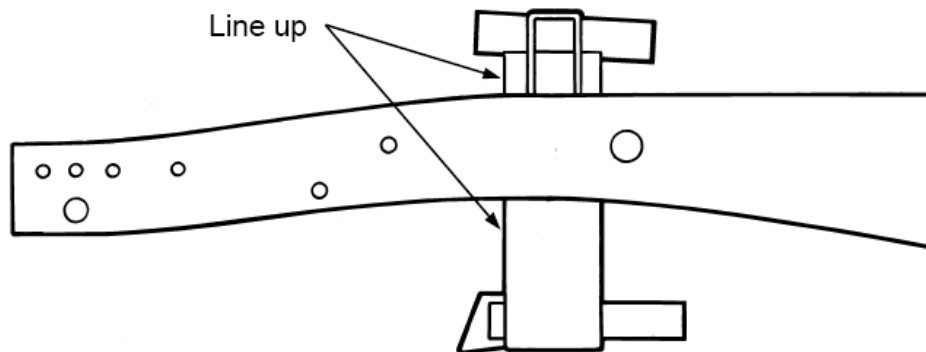
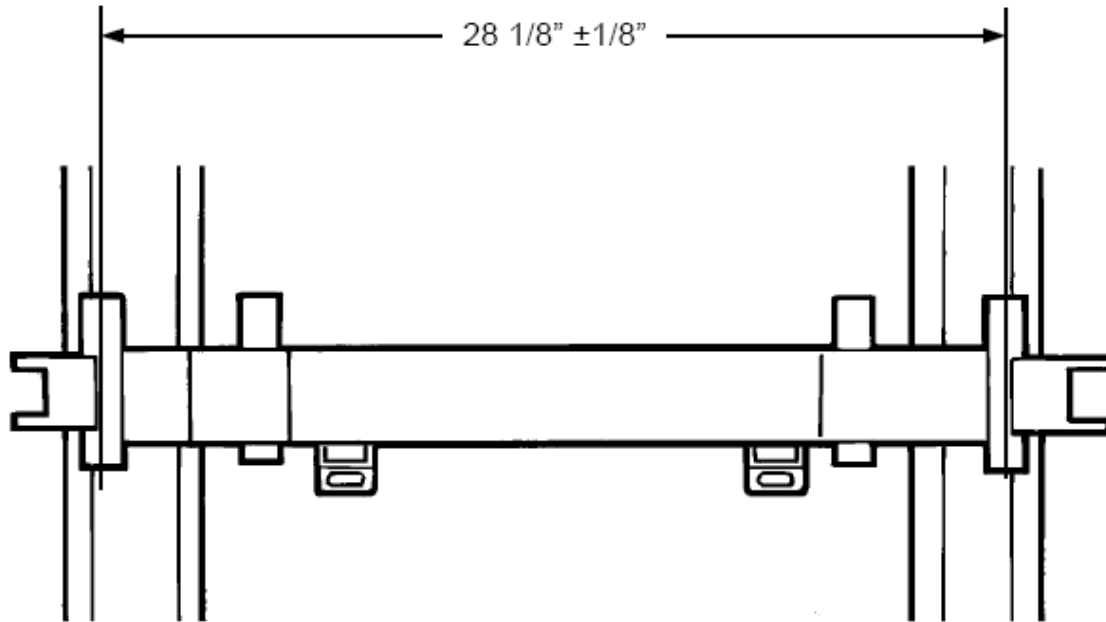

Figure 2- Upper Control Arm Mounts Install
Figure 3- Upper Mount Tubes Dimension
5. The upper control arm mounts are next. See **Figure 2**. They are positioned with the anti-dive angle of the upper arms higher in front, as shown. The upper mount should fit up with the main crossmember and contact the entire top of ends of the crossmember. If the upper mounts do not, grind the edges of the mounts where they sit on the frame. If there is a gap between the frame and the upper mounts, grind the edge where the upper mounts contact the crossmember. Care must be taken, however, to grind an equal amount off the entire edge so the angle of the upper mounts is not changed. Again, they should appear to be an extension of the crossmember. Now check the dimension across the upper mount tubes. That dimension should be 28 1/8". It is more important that the tubes be parallel and square as viewed from the top than exactly that dimension. See **Figure 3**. Again, cross measuring, square-ness and accuracy cannot be overstressed at this stage, as the closer the installation is at this point, the easier your final wheel alignment will be. Good strong welds are also required here, as the weight of the car hangs on the upper coil-over mounts.